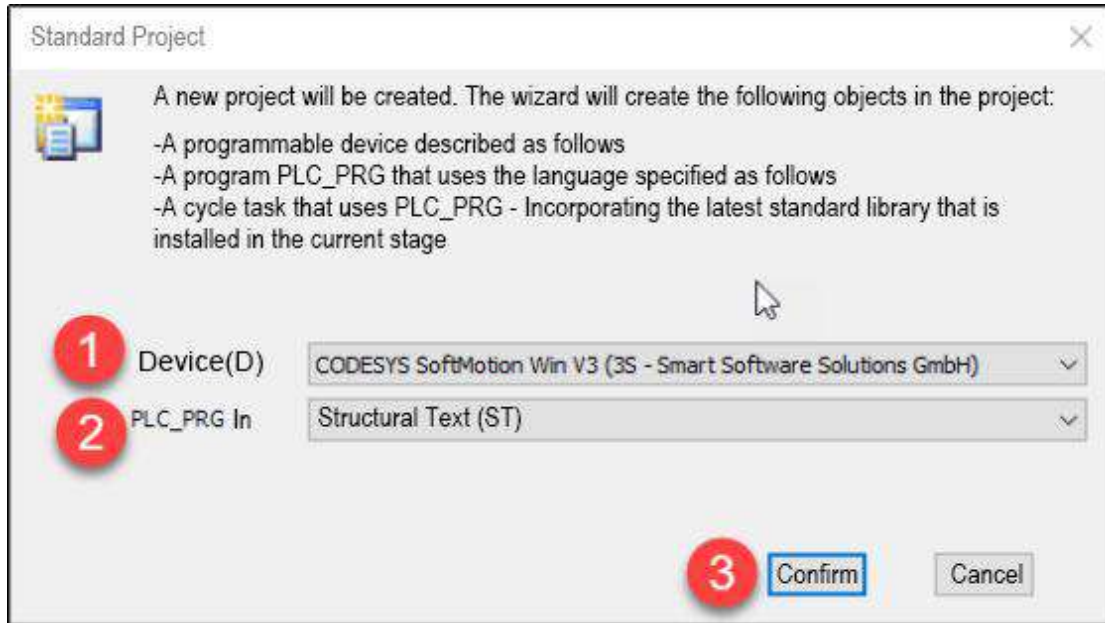

Figure 5-1-21 Selecting device and programming language
In the standard engineering window, select CODESYS SoftMotion Win V3 for device and Structured Text (ST) for PLC_PRG programming language, as shown in Figure 5-1-21.